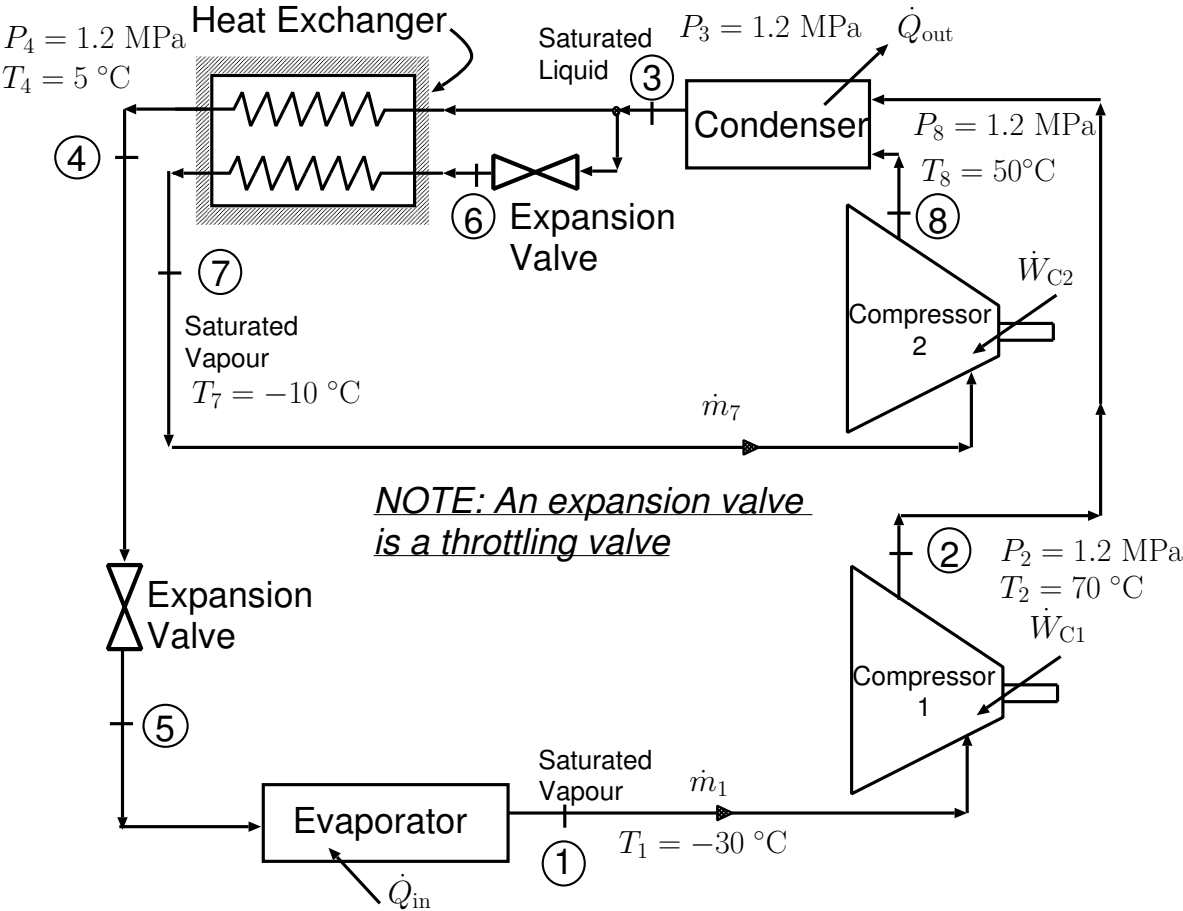

Figure 3: Figure for problem 3
3. Figure 3 shows a schematic of a vapour-compression refrigeration system that uses Refrigerant 22 (R-22) as the working fluid. The insulated heat exchanger subcools a portion of the saturated liquid refrigerant flow leaving the condenser. This stream exits the heat exchanger at 5°C and 1.2 MPa. The remainder of the flow from the condenser is diverted through an expansion valve (to State 6) before going through the other side of the heat exchanger (i.e., it is the other, separated stream). This stream exits the heat exchanger as saturated vapour at -10°C, and is then compressed up to a pressure of 1.2 MPa by Compressor 2 (to State 8). The rate of heat removal from the cold space (\dot{Q}_{in}) is 162.9 kW. The fluid leaving the evaporator is a saturated vapour at -30°C. The flow leaving Compressor 1 is at a pressure of 1.2 MPa and a temperature of 70°C. The flow leaving Compressor 2 is at a temperature of 50°C. The mixing of the streams leaving the two compressors occurs within the condenser. The two compressors are also insulated (i.e. adiabatic). Neglect changes in potential and kinetic energies.